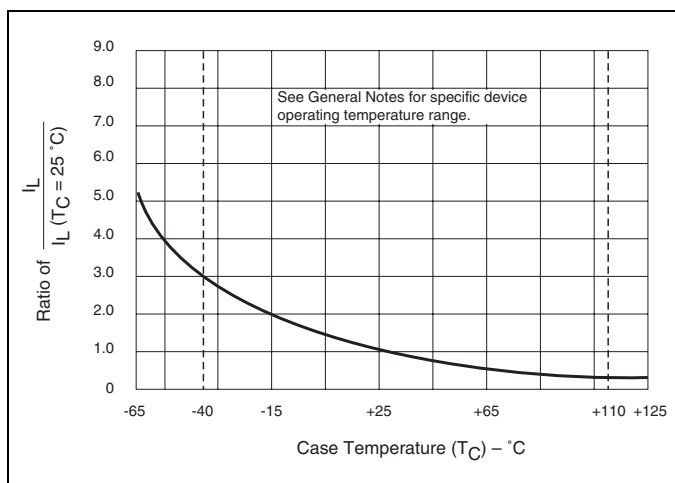

Figure E5.18 Normalized DC Latching Current versus Case Temperature
- Latching current can be higher than 20 mA for higher IGT types. Also, latching current can be much higher at -40 °C. See Figure E5.18.